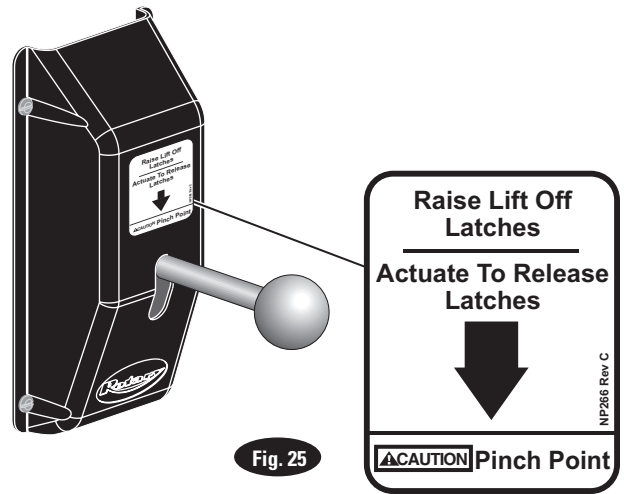

Fig. 25
**22. Latch Release Decal:** Install latch release decal on cover above latch release handle, Fig. 25.